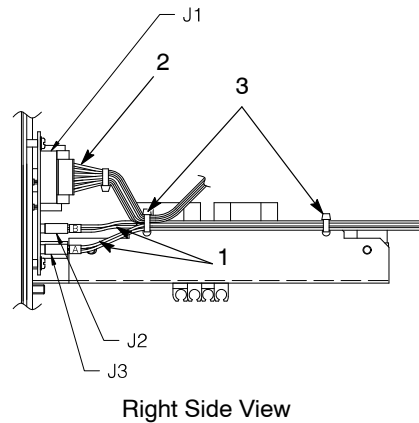

Figure 7-6 Connecting the Solenoid Wires and Triggering Distribution Harness
3. See Figure 7-6. Connect the two solenoid wires (1) from the rear panel to the J2 and J3 connectors on the interface board.
4. Connect the five-pin connector of the triggering distribution harness (2) to the J1 connector on the interface board.
5. Secure the solenoid wires and the triggering harness to the front panel assembly tray with tie-wraps (3).